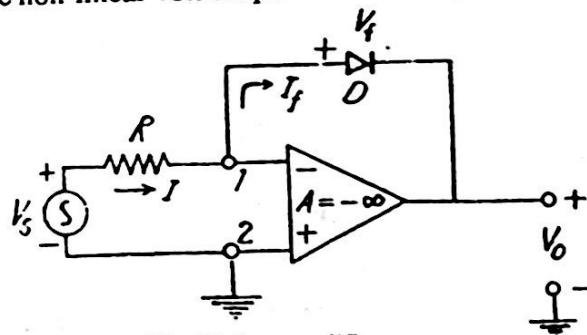

Fig. 24. Log amplifier.
(18) LOGARITHMIC AMPLIFIER : In this amplifier (fig. 24) output voltage is proportional to the logarithmic of the input voltage. Such an amplifier uses the non-linear volt-ampere relationship of a $p-n$ junction. This relationship is given by